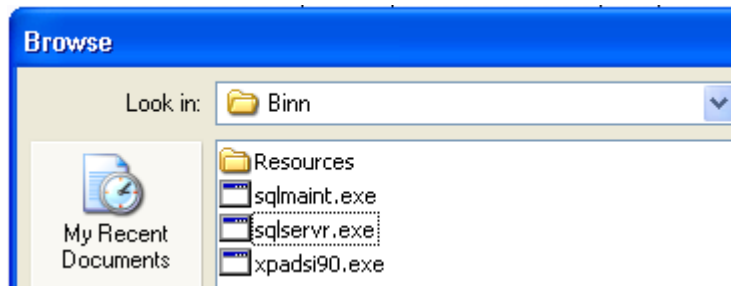
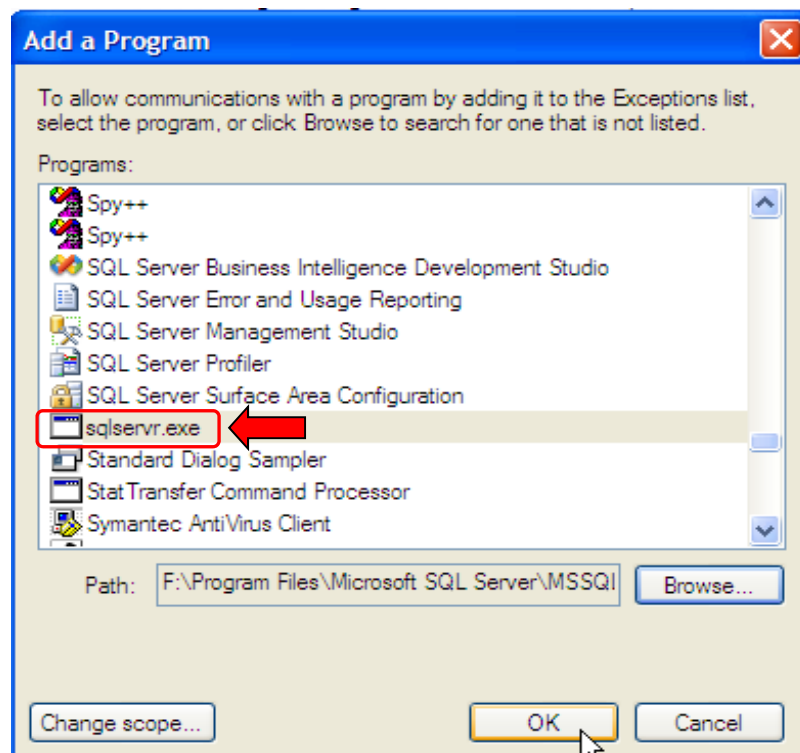

Figure III-12. sqlservr.exe File
Figure III-13. Add a Program Window with sqlservr.exe File Displayed
- d. Select the **sqlservr.exe** file (Figure III-12) and click **Open** to return to the Add a Program window (Figure III-13).